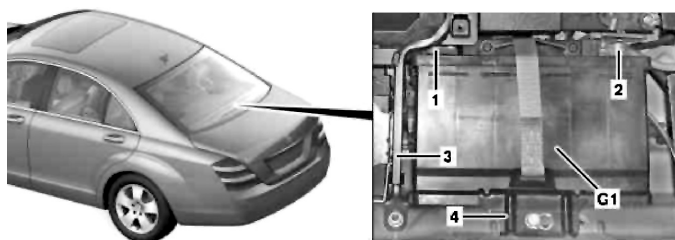

Fig. 2 Primary battery removal
6. Remove reinforcement at rear of rear shelf (3), **Fig. 2**.
7. Remove bracket (4) and pull out on-board electrical system battery (G1) slightly, **Fig. 2**.
9. Disconnect positive line (2) from positive terminal of on-board electrical system battery (G1), **Fig. 2**.
6. Install bracket (4), **Fig. 2**.
9. Install reinforcement at rear of rear shelf (3), **Fig. 2**.